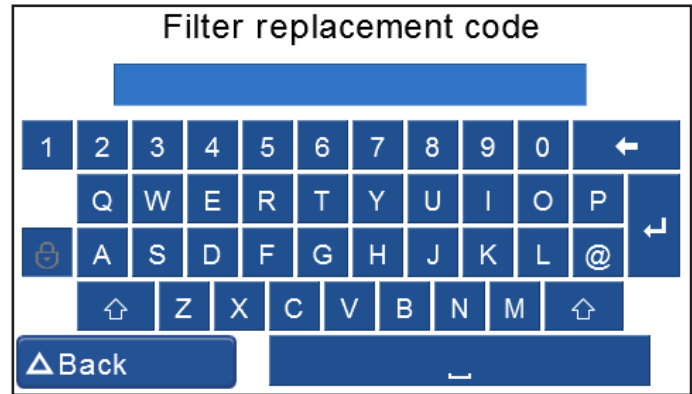

Fig. 50: Filter code entry
3. Insert the new filter code using the on-screen keyboard (Fig 50).